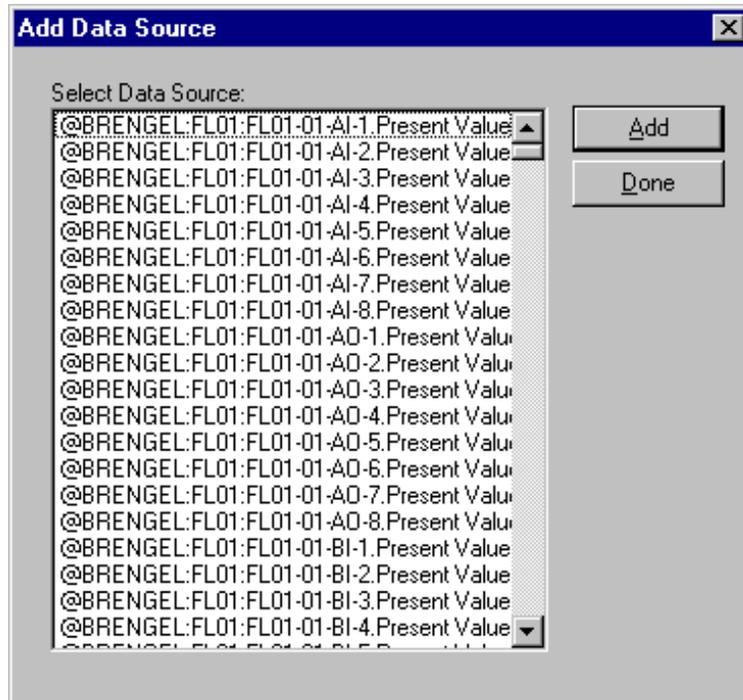

Figure 5-4: Add Data Source Dialog Box
3. Type the Data Source Name or click the Browse button for a list of available data sources (Figure 5-4).